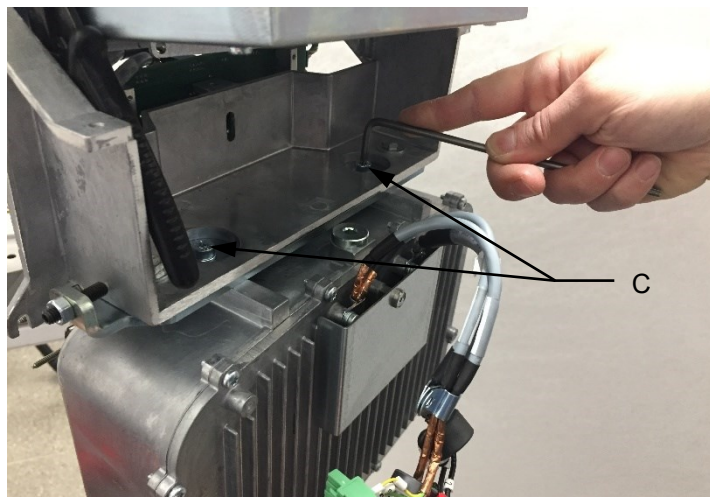

Figure 40
7. Mount the new tubehead, taking care to push it with one hand in the direction of the sensor while tightening the screws "C" (Figure 40).
13. In case the beam is not centered to the sensor, loosen the screws "C" (Figure 40) and act on screws "D" and "E" (Figure 43) following the convention reported below: